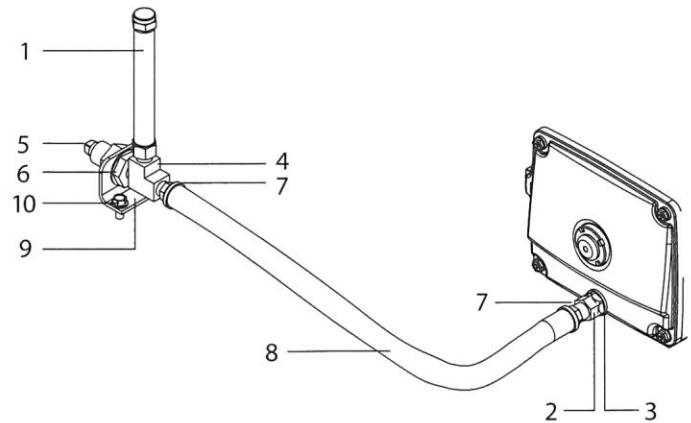
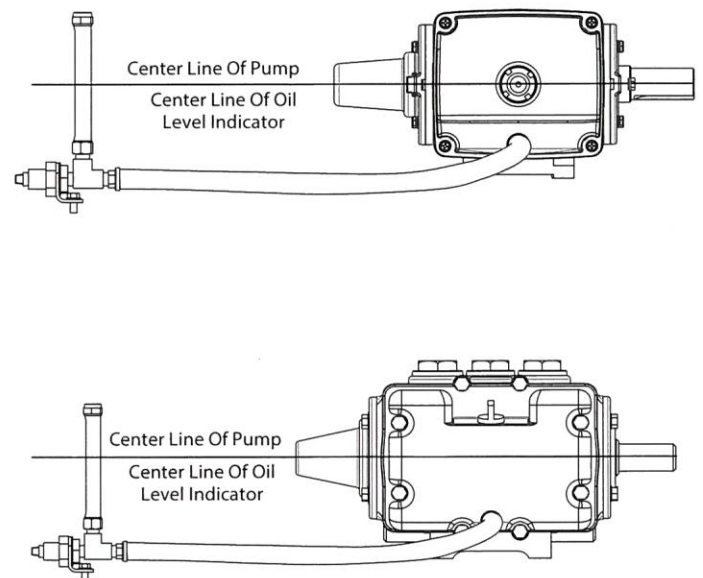

Figure 2
Figure 3
3. Install 1/4" BSP fitting (Figure 2, item 2) with o-ring (3) into rear cover of pump.
4. Attach hose barbs (7) to each end of 3/8" hose (8).
5. Thread one end of hose (8) into fitting (2) of rear cover.
6. On opposite end of hose (8), thread in tee (4). Position tee (4) with female threads up.
7. Remove nut from 1/4" union fitting (6).
8. Thread in hose (8) with tee (4) to large end of union fitting (6).
9. Mount bracket (9) with screws (10) into desired position such that the centerline of the sight area of the crankcase oil indicator (1) is at the same center line of the pump (See Figure 3)
10. Install hose assembly through mounting bracket (9)
11. Reinstall nut onto threads of union fitting (6) and tighten.
12. Thread in square end plug (5) into open end of union fitting (6).
13. Thread in crankcase oil level indicator (1) into open port of vertical leg of tee (4).